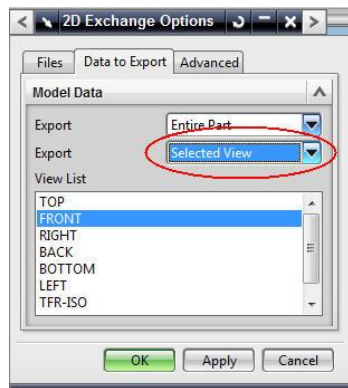

Figure 8
- d. **Select** the **Data to Export** tab. If the work view is not the correct orientation, **Specify Selected View** from the drop-down list (shown Figure 8). From the view list, **select** the correct view.